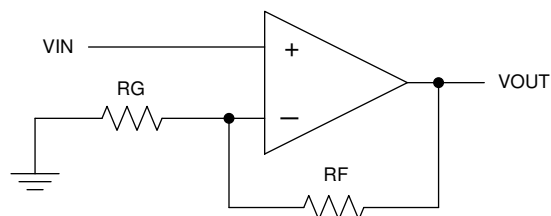

Figure 8-6. Schematic Representation
- Place the external components as close to the device as possible. As shown in Figure 8-6, keep RF and RG close to the inverting input to minimize parasitic capacitance.